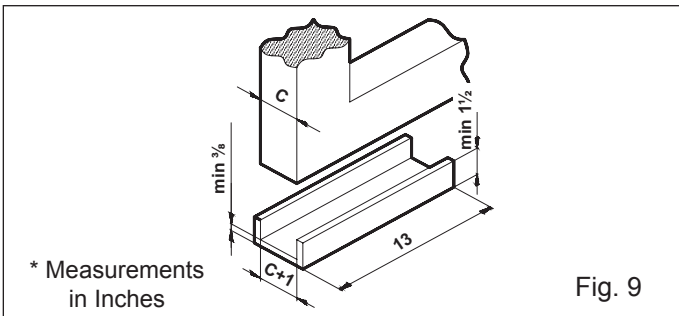

Fig. 9
- Use a "U" profile with dimensions indicated in Fig. 9.